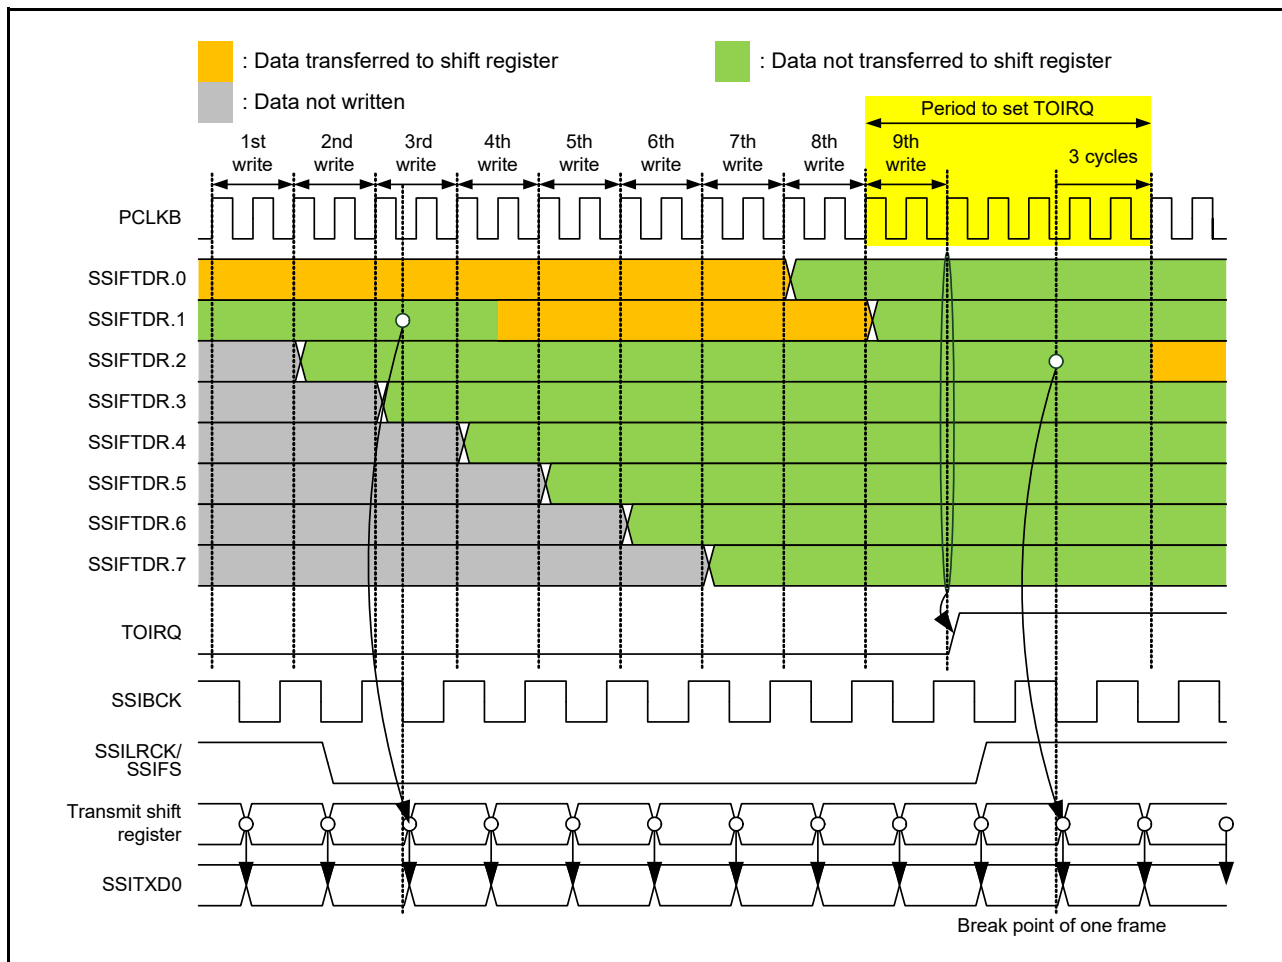

Figure 33.16 TOIRQ setting timing
- On completion of writing to SSIFTDR. For details, see Figure 33.16.